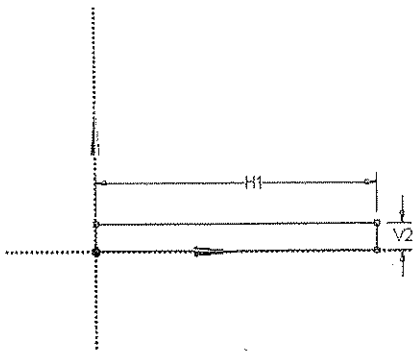

Figure 7-21 Rectangle created on the XY plane
- 6. Create a rectangle and dimension it, as shown in Figure 7-21.